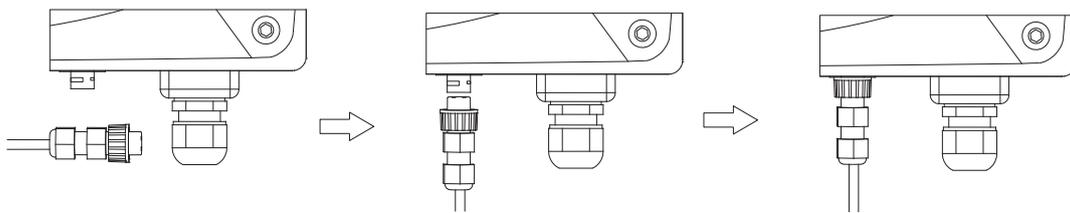

Figure 7.4 Detailed connection
- (1) Weld communication cables to the RS485 terminals of the inverter as figure 7.4 shows; Ensure the cable corresponds to the pin as table 6-1 shows and the welding is tight enough.